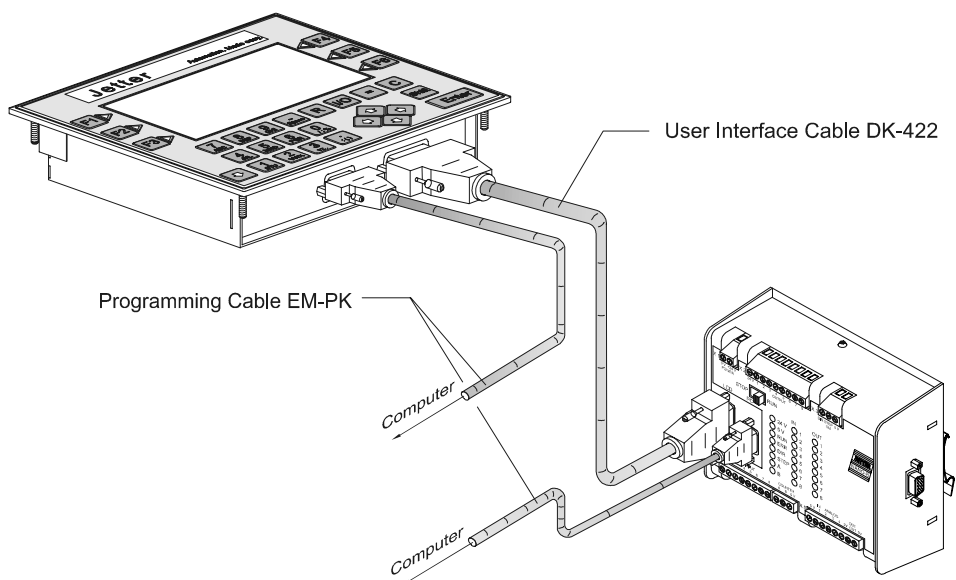

Fig. 3: Example: Connection of LCD 19 with PROCESS-PLC NANO-B
- Remove the EM-PK programming cable from your LCD 19 and connect the cable to your control system, see fig. 3, page 13.
- Establish a permanent connection from the LCD 19 to the PROCESS-PLC with the user interface cable DK-422, see fig. 3, page 13.